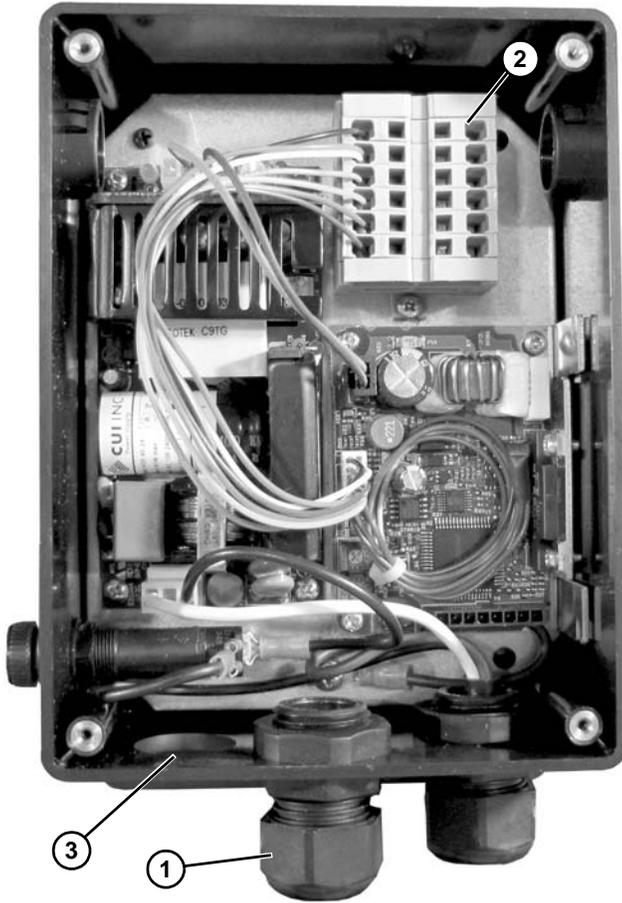

Figure 4
4. Insert multi-conductor cable into cord grip (**Figure 4, item 1**).
5. Wire START/STOP, COM, and CW/CCW to terminal (**Figure 4, item 2**).
6. Install motor cord through interface location (**Figure 4, item 3**). Refer to Motor Manual 851-748 or 851-749 for details.